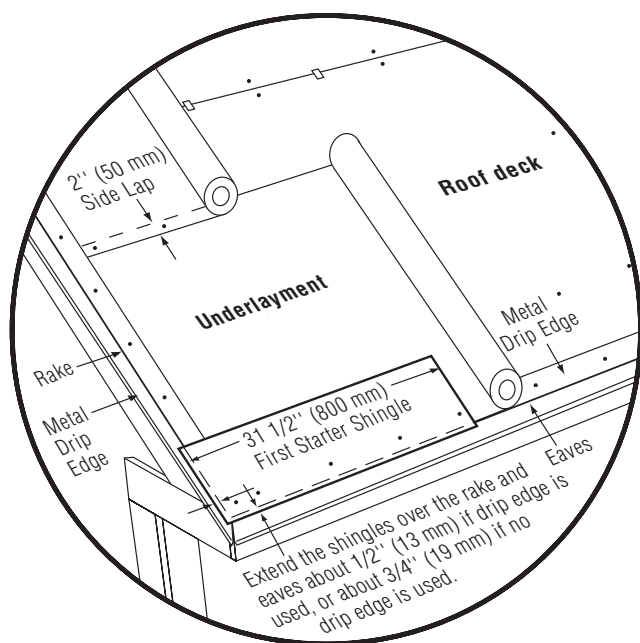

Figure 17-8: Standard slope underlayment and starter drip edge details.
- ◆ For both shingle styles, cut $4\frac{1}{2}$ " off the length of the left side of the first starter strip and apply at the lower left corner of the roof. This $31\frac{1}{2}$ " starter strip should overhang the rakes and eaves $\frac{1}{2}$ " when drip edge is used or $\frac{3}{4}$ " when no drip edge is used. Continue with full 36" lengths of starter strips all along the eaves (Figure 17-8).